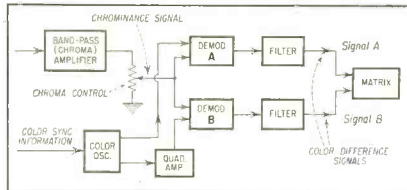

Fig. 12—General demodulation block diagram for either I/Q or R-Y/B-Y signals.
chrominance signals. This results in the re-establishment of Signal A in demodulator A and Signal B in demodulator B as shown in Fig. 12. The following paragraphs will explain why.
so that signal A is developed at the output of the A demodulator and not at the output of the B demodulator, the same applying to Signal B and its development in the B demodulator. To begin with let us analyze one of the demodulators (A) of Fig. 12 to which a chrominance signal is being applied such as in Fig. 13.
A similar analysis may be applied to Demodulator B (Fig. 12) which is sampled by the quadrature component of the 3.58 mc local oscillator. In this case color-difference signals appearing in the output of Demodulator B are those corresponding to the chrominance signal component in phase with the quadrature 3.58 mc signal (see Fig. 11). Thus, in spite of the fact that the same chrominance signal is applied to the control grids of both demodulators, the sampling function of the suppressor grid in each modulator permits *only* R-Y or I signals in the output of the In-Phase Demodulator A, and B-Y or Q signals in the output of the Quadrature Demodulator B. This, in its essence, is the technique of two-phase demodulation.